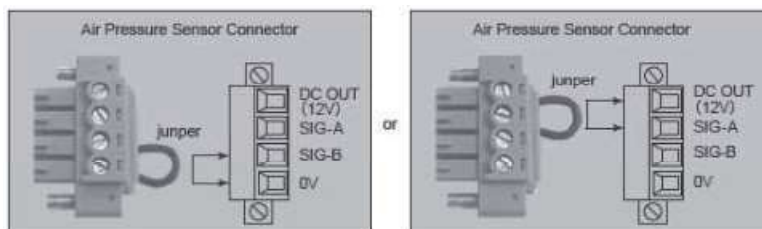

Fig. 27
- Install a jumper wire between "0V and SIG-B" or "DC OUT (12V) and SIG-A". Refer to Fig. 27.